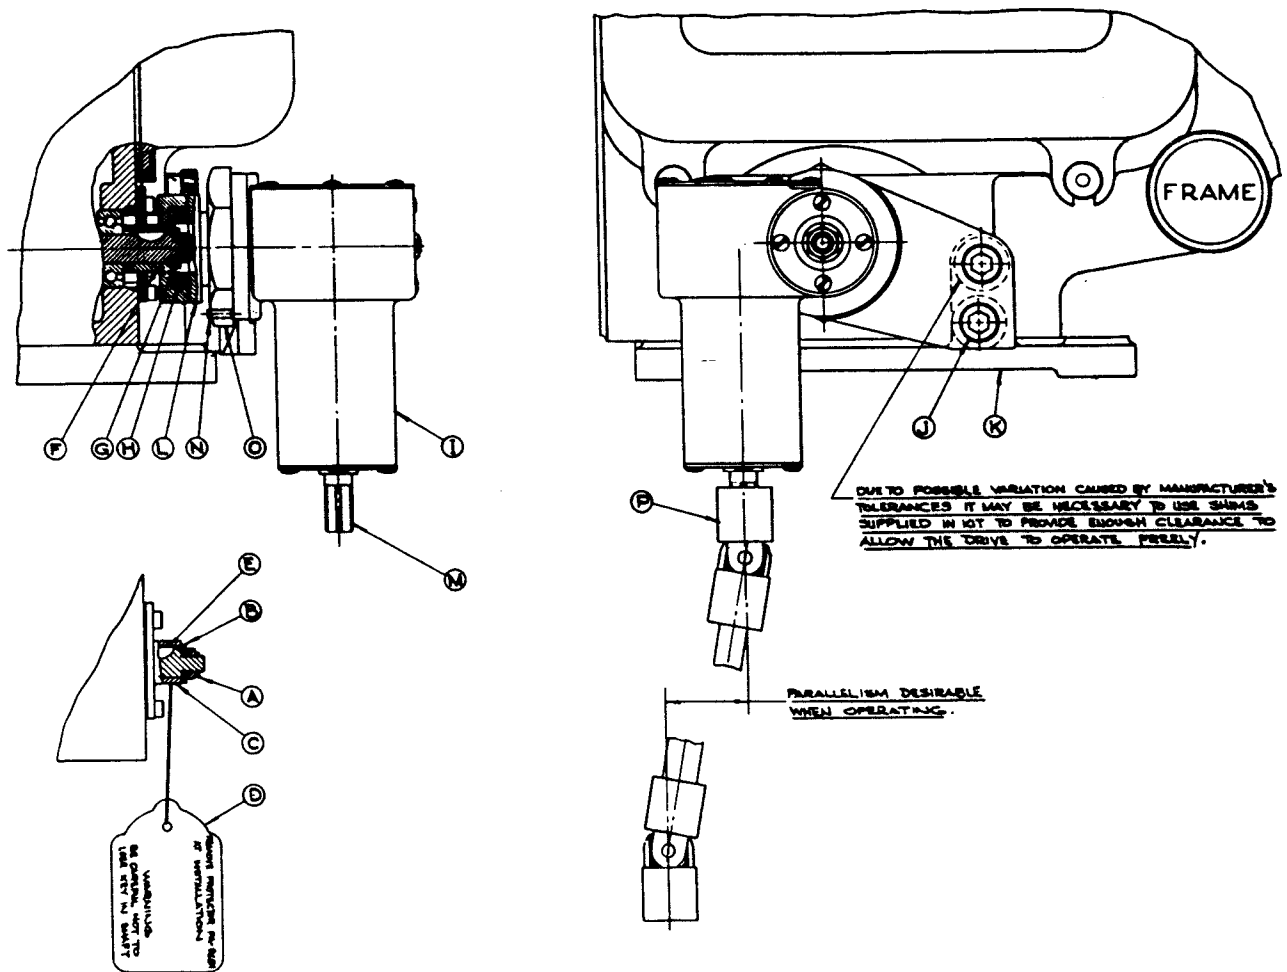

FIGURE 1-7
d. Western Electric Universal Base (G-2180) (See figure 1-7.)
1) Remove locknut (A) and washer (B) from the projector and retain.
2) Remove protector (C) and tag (D) from the projector and discard.
3) Make sure that the drive shaft key (E) remains in its slot in the shaft.
4) Slide the driven coupling fork (F) on the shaft from which protector (C) was removed, with its hub toward the projector and its keyway in exact alignment with key (E).